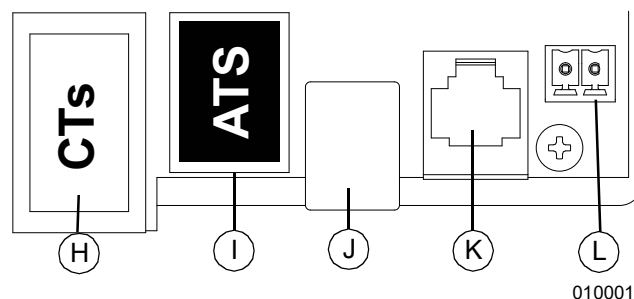

Figure 5-2. Accessory Ports
- ☐ The Inverter ATS Control port on the PWRcell ATS controller is wired to the inverter "ATS" port via Cat 5 cable. The inverter "ATS" port is labeled 'I' in Figure 5-2.
is wired to the inverter “CTs” port via Cat 5 cable. The inverter “CTs” port is labeled 'H' in Figure 5-2.
☐ The “Inverter ATS Control” port on the inverter PWRcell ATS controller is wired to the inverter “ATS” port via Cat 5 cable. The inverter “ATS” port is labeled 'I' in Figure 5-2.
☐ The “Inverter CTs” port on the generator PWRcell ATS controller is wired to the inverter “CTs” port via Cat 5 cable. The inverter “CTs” port is labeled 'H' in Figure 5-2.